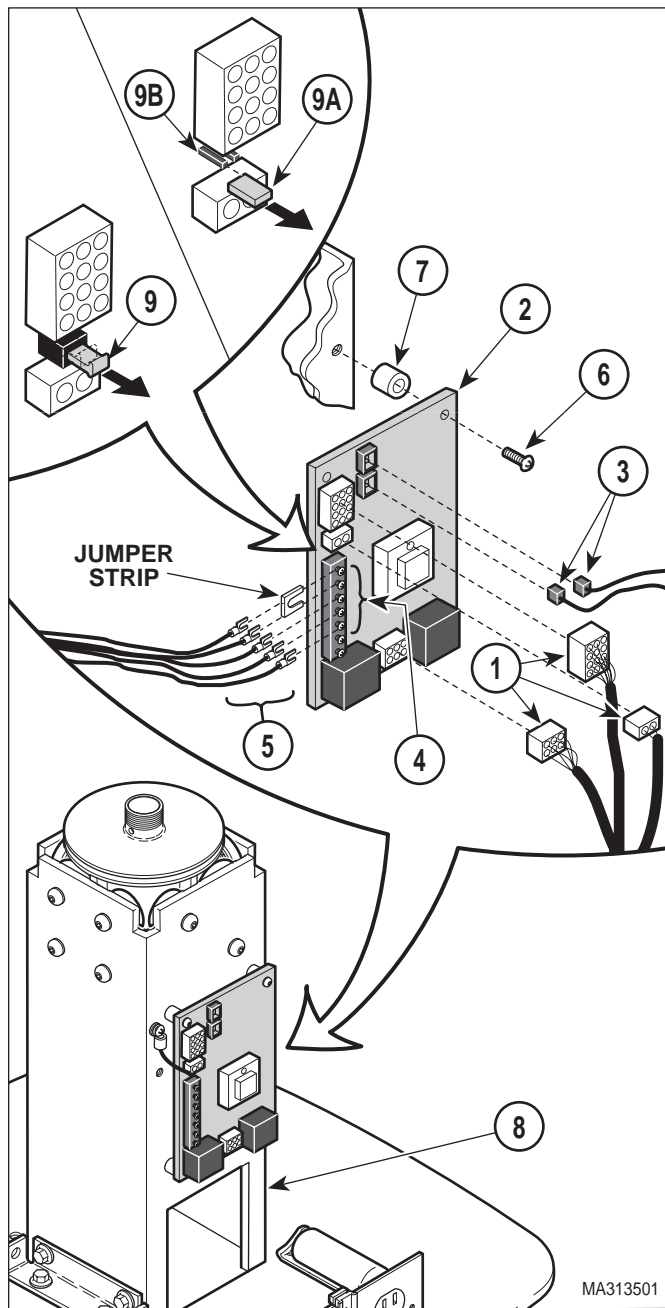

Figure 4-6. PC Control Board Removal / Installation
- (4) Remove two screws (5), four screws (6), and motor cover (7) from elevation column (8).
- (5) Disconnect three wire harnesses (1, Figure 4-6) from PC control board (2).
- (6) Tag and disconnect two modular cords (3) from PC control board (2).
- (7) Loosen five terminal screws (4); then tag and disconnect five wires (5) from PC control board (2).
- (1) Install PC control board (2, Figure 4-6) on elevation column (8) and secure with four spacers (7) and screws (6).